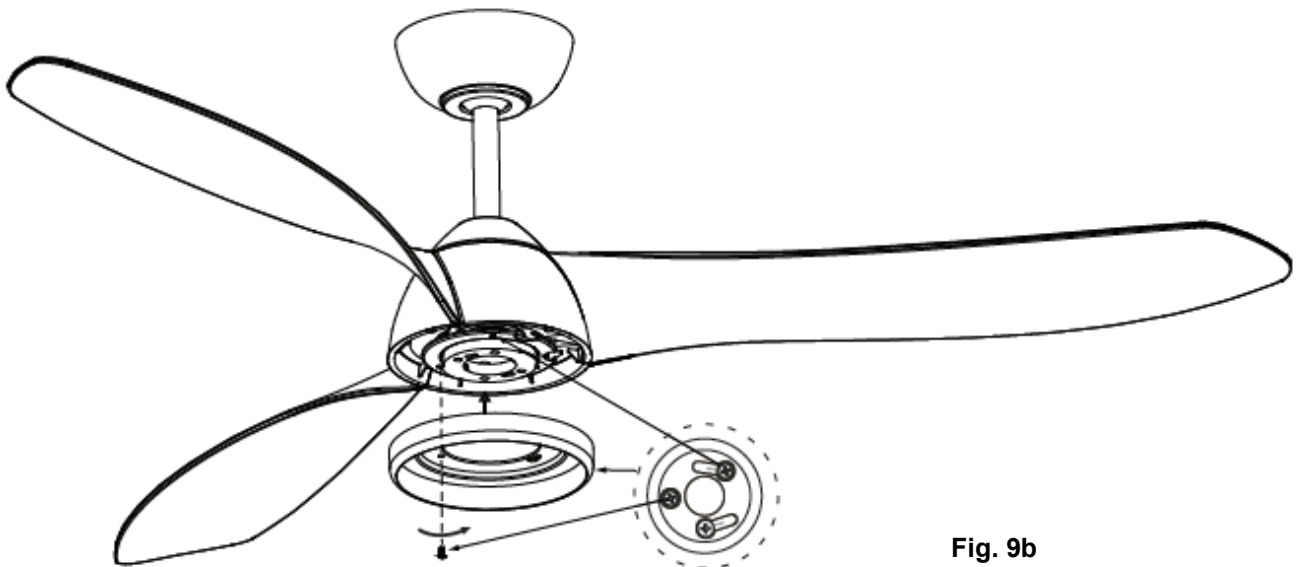

Fig. 9b
- Take off 1 screw from the connection base, and loosen the other two screws (do not remove). Attach the fan light plate onto the lamp base, and slide through the two key holes on plate by turning clockwise, then secure with the screws. **(Fig. 9b)**